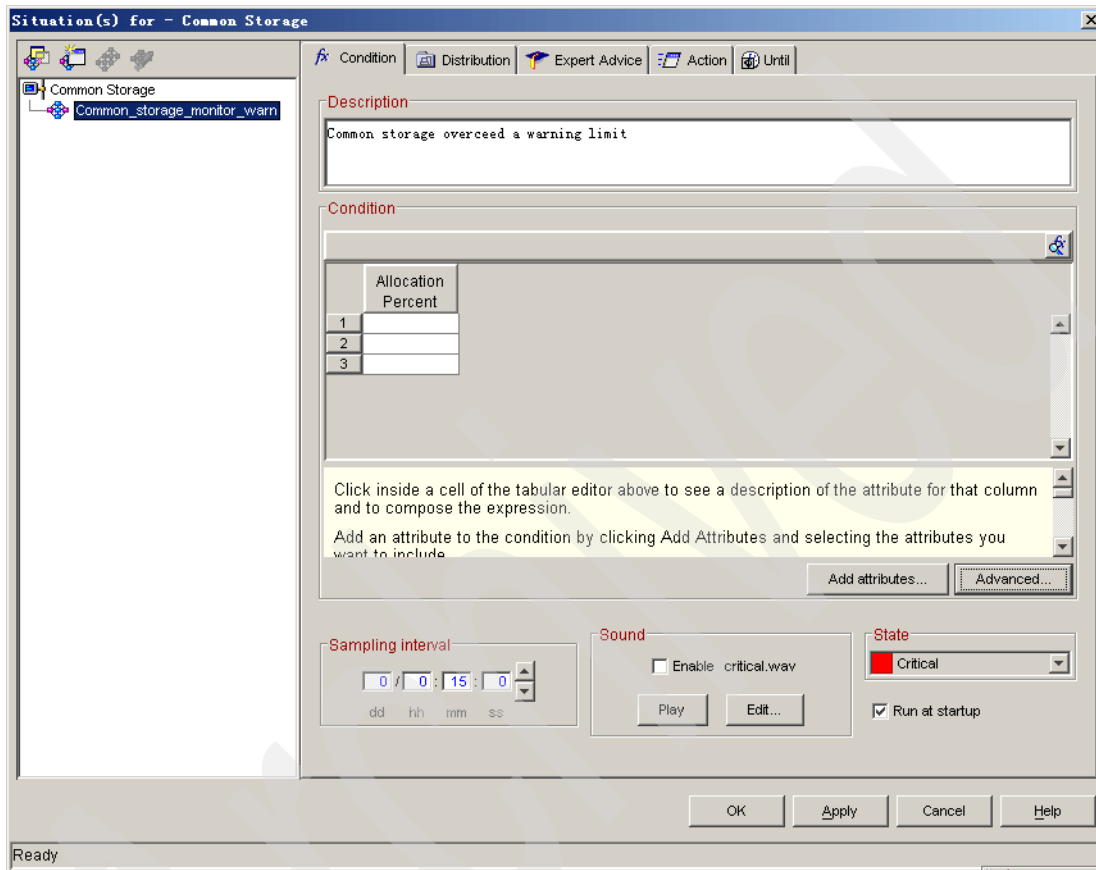

Figure 6-23 Create situation to monitor common storage - situation dialog
4. After selecting one attribute, Figure 6-23 shows your situation. Click **Add attributes** to add new attributes that we want. Using the Select Attribute window, we selected **SQL overflow** and **ESQL overflow** attributes.